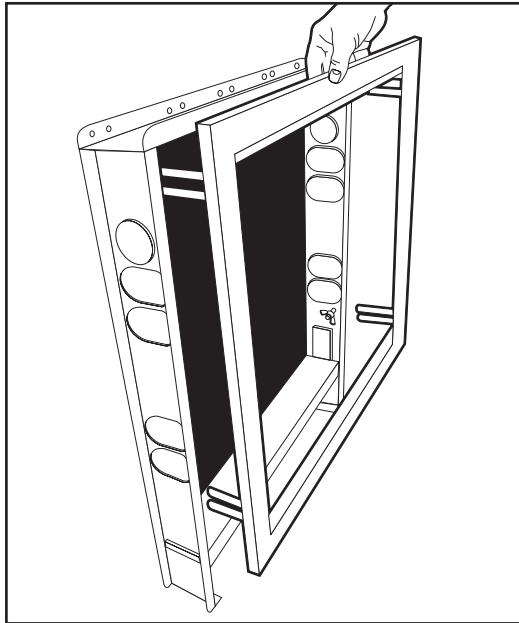

Figure 3
2. Slide the door frame brackets towards the manifold cabinet studs until they attach onto the manifold cabinet. See Figure 3